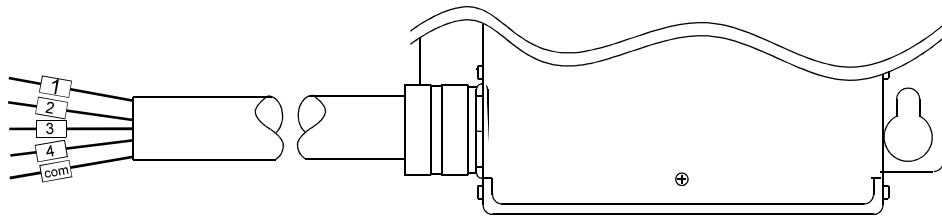

Figure 2-4. High Current Cable.
4. Connect the high current cable to the filament feedthrough. Filament wires are labeled as shown in Figure 2-4.